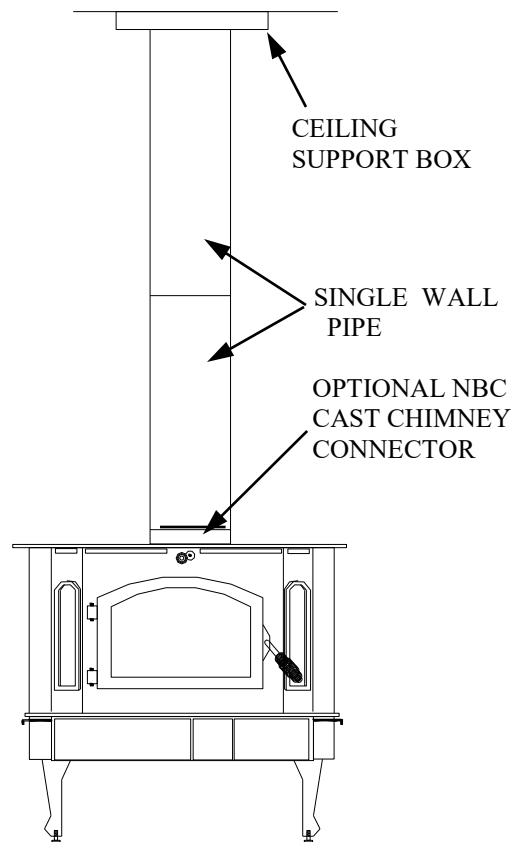

FIGURE 16
3. Connect stove to ceiling support box by using #24 ga. minimum blued or black steel chimney pipe. (DO NOT use galvanized pipe.) Each section should fit into section below or into opening on stove, for drip-free operation. Secure each section together by using at least three (3) sheet metal screws or rivets. (See Figure 16). You may secure chimney pipe to stove with Optional NBC Cast Chimney Connector.